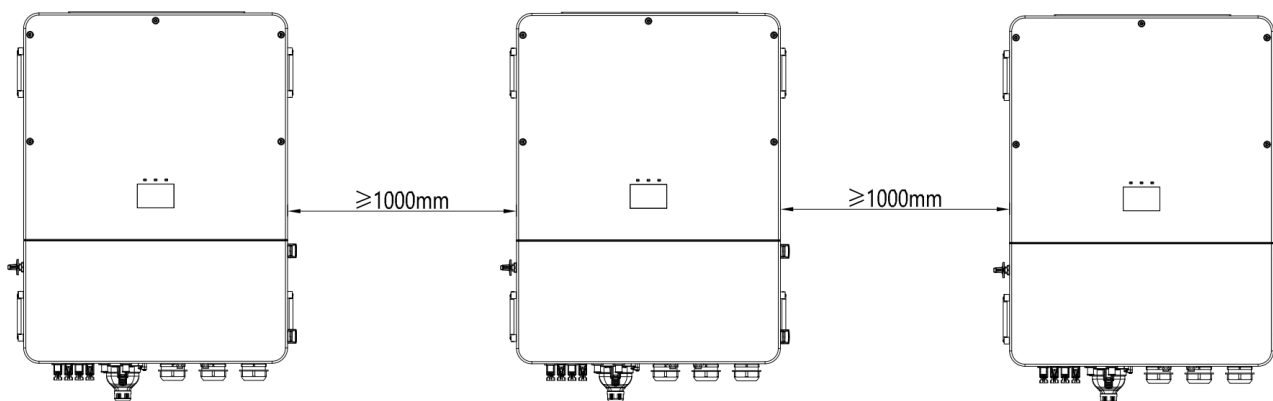

Figure 4-5 Dimension requirements for side-by-side installation
- When installing multiple inverters, it is necessary to reserve a certain distance (left and right) between inverters, as shown in Figure 4-5, and at the same time, sufficient space should be reserved from the top and bottom of inverters to ensure good heat dissipation.